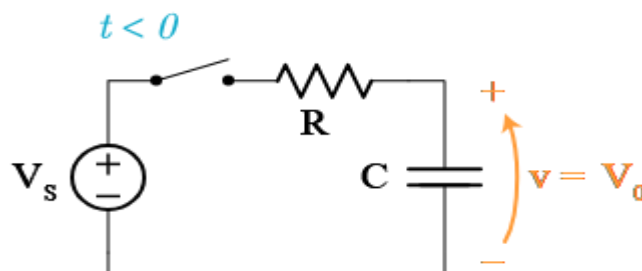

Fig 6.1 R-C Series Circuit when switch is open
**Finding the step response:** An electric circuit consisting of a resistance (R) and a capacitor (C), connected in series, is shown in Fig 6.1. Consider the switch (S) is closed at  $t=0$   $t=0..$
To verify our analysis, in the circuit of Figure 6.1, In order to reflect the notion of a time-varying circuit with a switch, the DC voltage source has been replaced with a rectangular pulse voltage source.